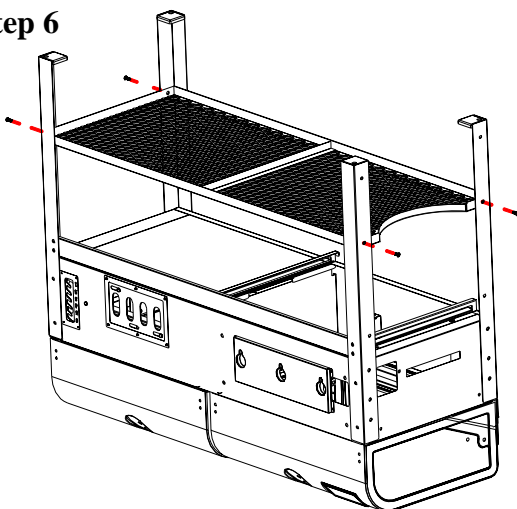

Fig. 6
*Locate:* Bottom Mesh Shelf, (4) M6x15 bolts.
Refer to Fig. 6 and attach the Bottom Mesh Shelf to the Legs as shown using (1) M6x15 bolt in each hole at both ends of the Shelf.